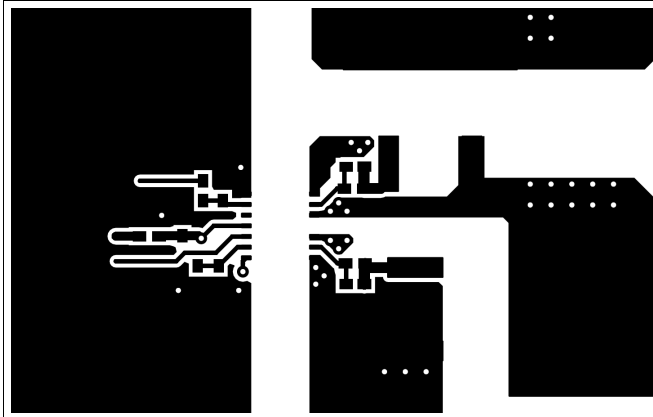
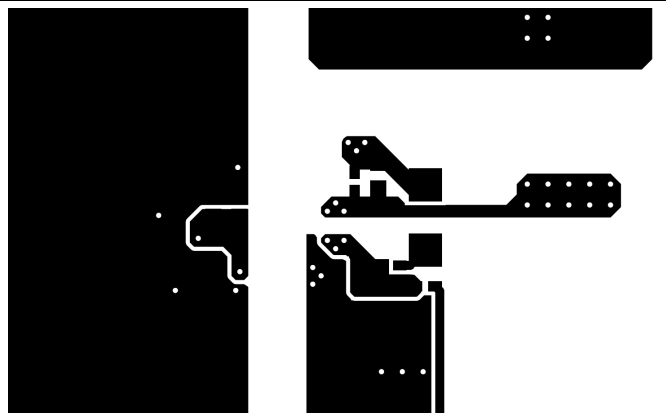

Figure 42. Top Layer Traces and Copper
Figure 43. Bottom Layer Traces and Copper
- Increasing the PCB copper connecting to VDDB, VSSA and VSSB pins is recommended, with priority on maximizing the connection to VSSA and VSSB (see Figure 42 and Figure 43). However, high voltage PCB considerations mentioned above must be maintained.
Figure 42 and Figure 43 shows top and bottom layer traces and copper.